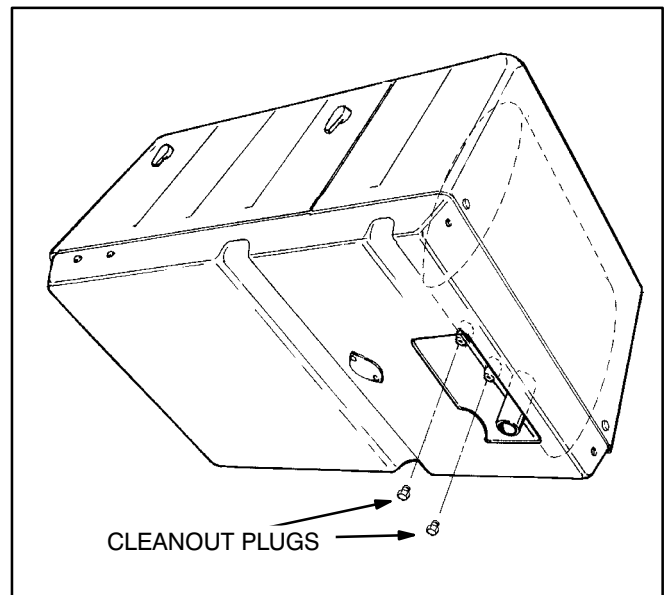

FIGURE 3-5. SPARK ARRESTOR CLEANOUT PLUGS
1. Remove the cleanout plugs from the bottom of the muffler (Figure 3-5).